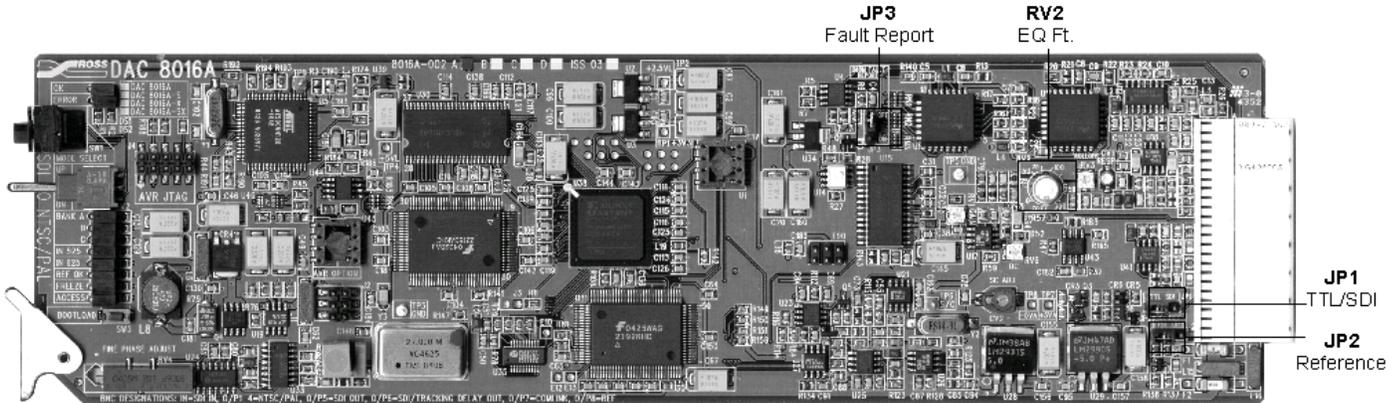

Figure 2. DAC-8016A Jumper Locations
Use Figure 2, the card labeling, and the following discussions to set up DAC-8016A jumpers. These settings are performed *before* installing the unit in the frame, but may be repeated as required. Refer to Figure 2 for card jumper locations.
1. Locate pot **RV2 (EQ FT)**. See Figure 2, on the previous page. The control is calibrated from **0** to **300** ft.